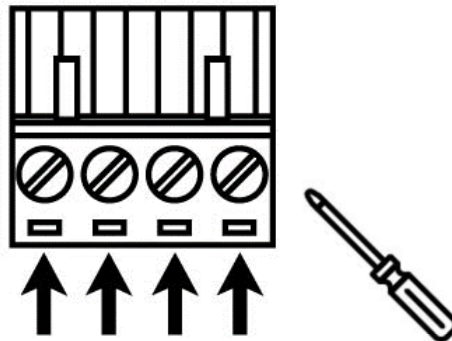

Figure 2.5: Power Terminal Block
Step 2. Tighten the wire-clamp screws to prevent the wires from loosening, as shown below in Figure 2.5.